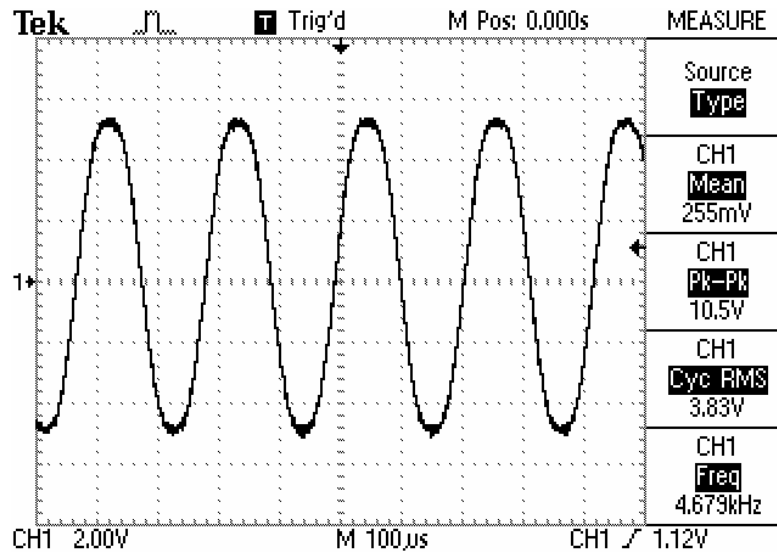

Figure 11: Oscilloscope Display of 5 kHz Sine Wave
12. [] Gradually turn the A&D FREQ (60 Hz to 5 kHz) knob clockwise and verify that the frequency increases up to approximately 5 kHz at 10V Pk-Pk as shown in Figure 11.